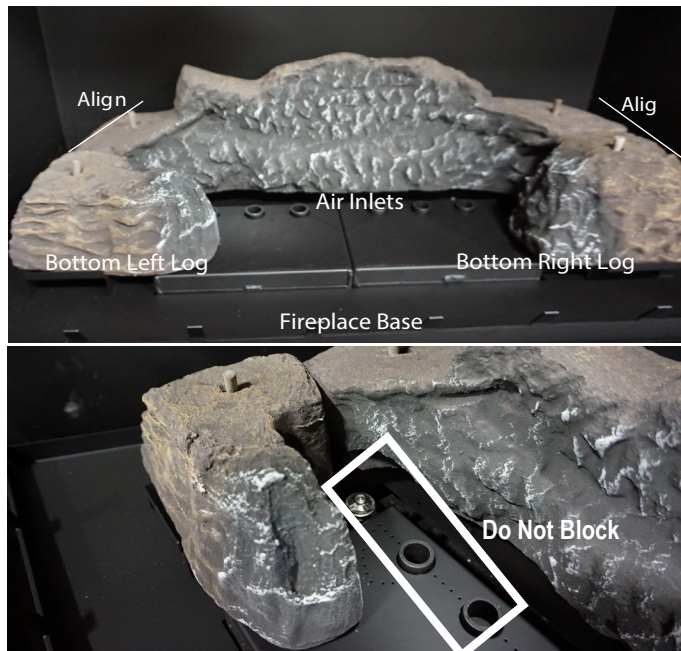

Figure 27a. Placing Bottom Right / Left Logs.
Step 3. Place the bottom Right and Left logs as shown in figure 27a.
Arrange the ember chips on top of the burner tray. Care should be taken when placing the embers, as improper placement may cause an incorrect flame pattern, carbon deposits and delayed ignition. Also, the embers must never be placed in a way that obstructs any of the air inlet ports, located at the rear of the burner, as shown in figure 27a.